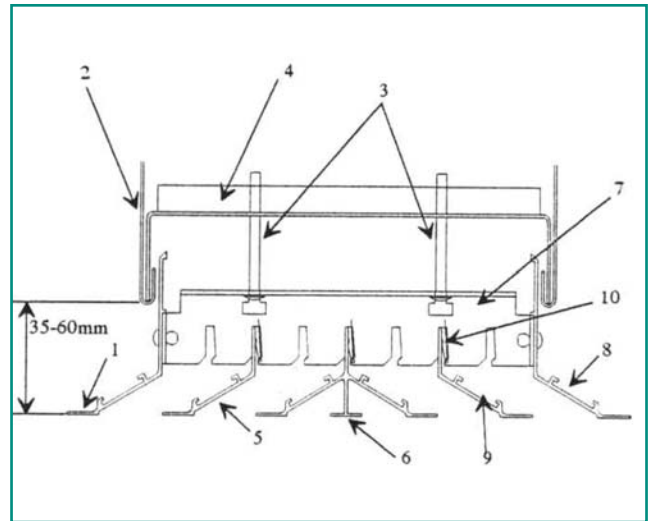

Figure 2- DSL Diffuser
- 6- Replace flow control vanes and inner vanes exercising care to ensure that these are inserted to the correct side of the stay bracket spring (item 10 on **Figure 2**).